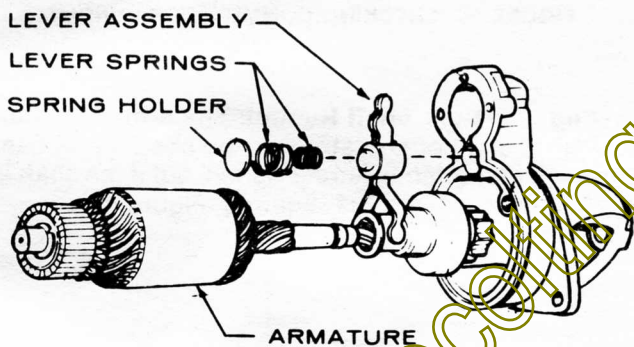

FIGURE 25. REMOVING ARMATURE FROM SOLENOID SHIFT STARTER
4. **Solenoid Starter Only:** The armature can now be removed from the front bracket. Be careful not to miss the small steel washer used in the end of the armature shaft. Remove the shift lever at the same time the armature is removed. The spring holder, lever springs and retainer can be removed prior to the lever, Figure 25.